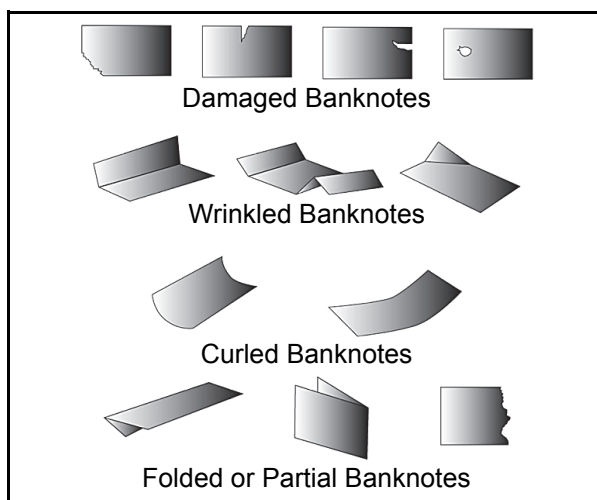

Figure 1-3 Unacceptable Banknotes
1. The following Banknote types may not validate correctly, or can cause a Banknote jam and/or damage to the Unit's Transport path. Banknotes exhibiting the conditions listed below and illustrated in Figure 1-3 should be avoided: